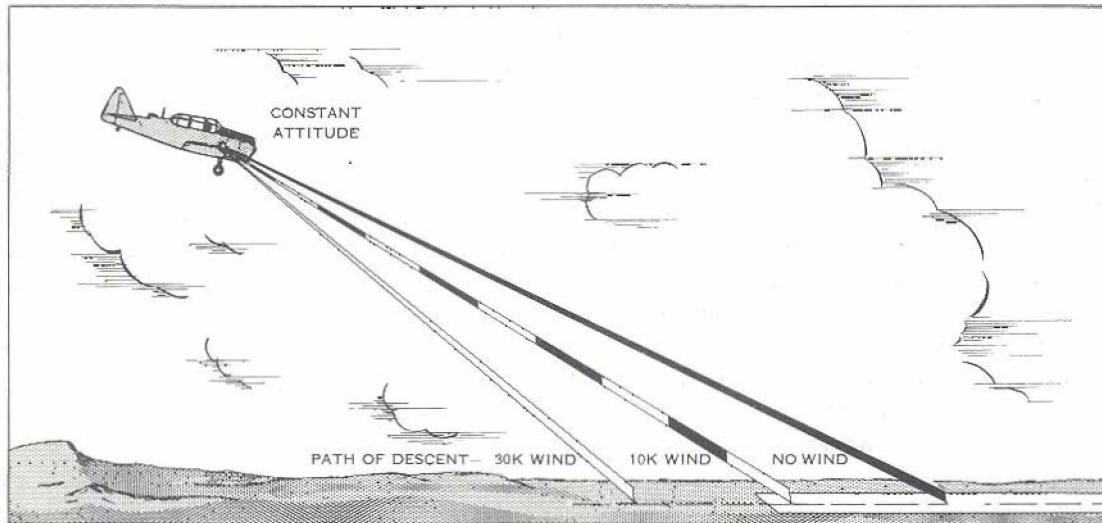

Figure 5: The Effect of Wind on the Approach
(1) If it is apparent that your approach is going to be made into a strong wind, you must be prepared for a steeper angle of descent, as shown in Figure 5 overleaf. The attitude of the aircraft remains the same, but if no adjustment has been made to the circuit, more power is required to reach the predetermined spot for the touch-down. The strength and direction of the wind is one of the items in the landing instructions, therefore you should begin to plan your approach leg as soon as landing instructions are received. The strength of the wind will determine when you should turn onto the base leg to allow for a normal final approach.